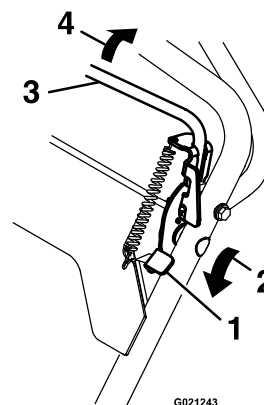

Figure 12
- Push and hold the blade-control lock forward to release the blade-control bail (Figure 12).